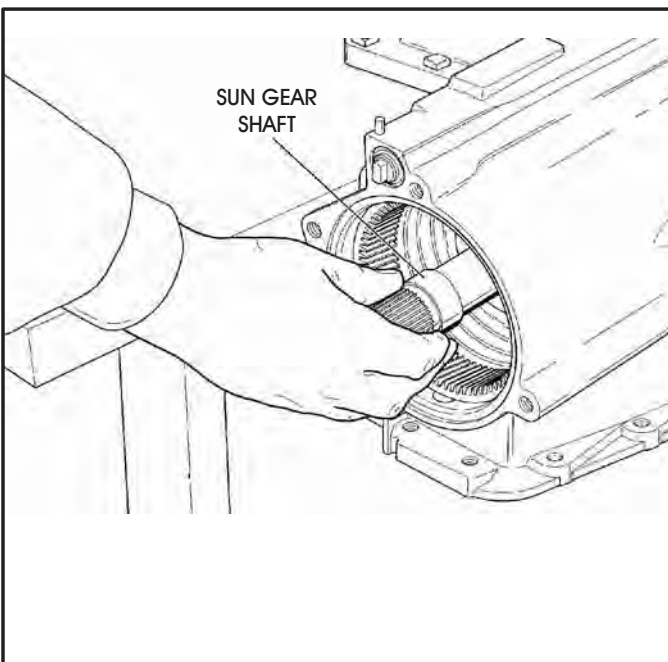

Figure 167
3. Install final drive sun gear shaft, as shown in Figure 167.